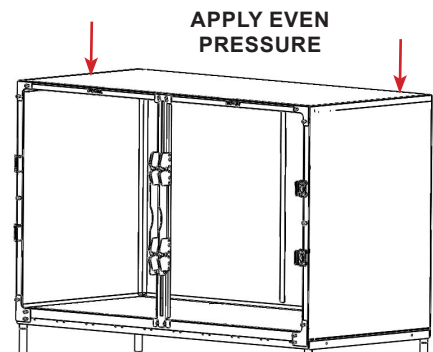

FIGURE 2.64 - Top Panel Installation
STEP 18: Once the top panel is secure against the cage, apply even firm pressure for 60 seconds (minimum) to the top panel to adhere the panel to the back of the cage. See FIGURE 2.64